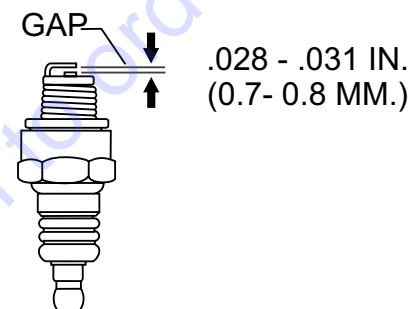

Figure 56. Spark Plug Gap
1. Remove and clean spark plug (Figure 56) with a wire brush if it is to be reused. Discard spark plug if the insulator is cracked or chipped.